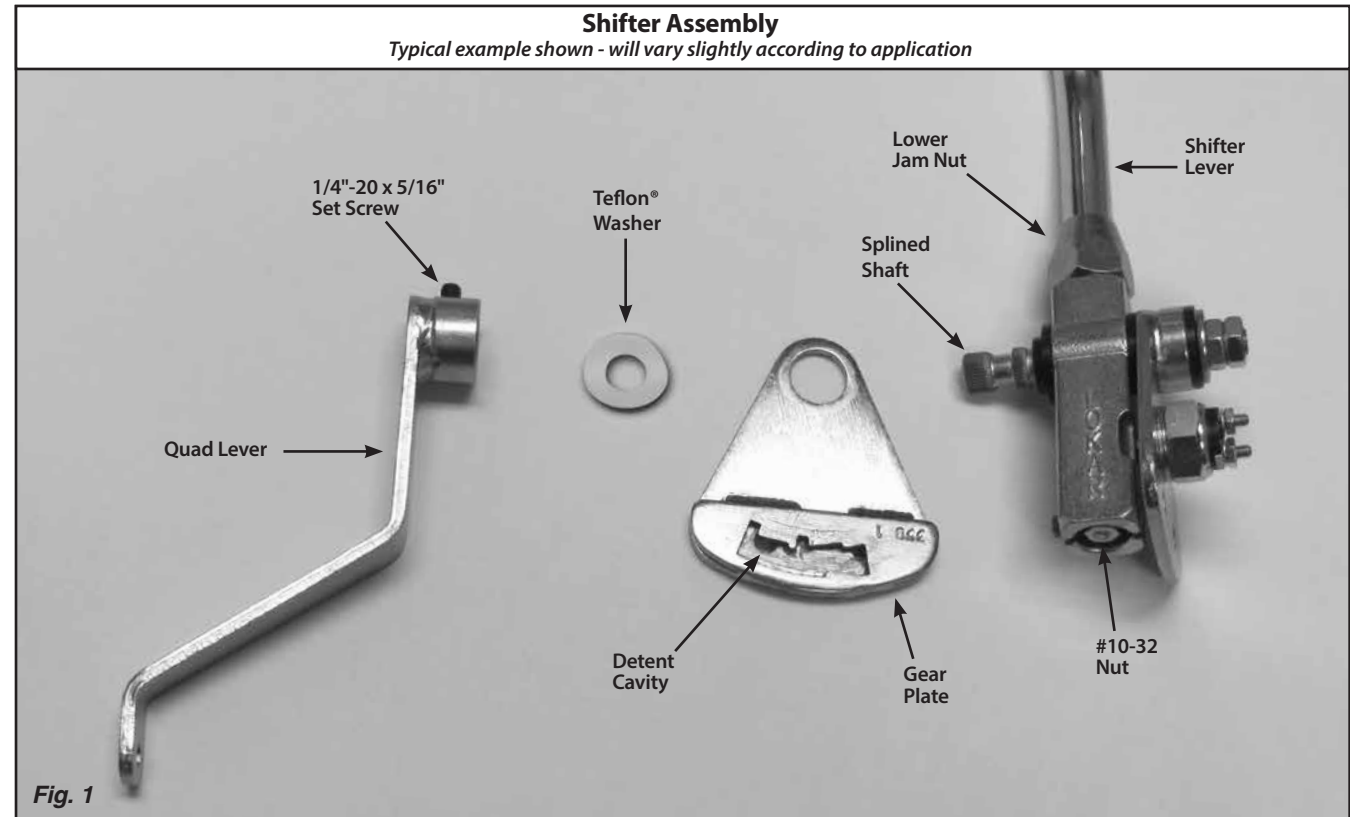

Fig. 1
Step 3: Disconnect the shifter linkage from the quad lever, unbolt the shifter assembly from its mounting brackets, and remove the shifter assembly from the vehicle. **Fig. 1**